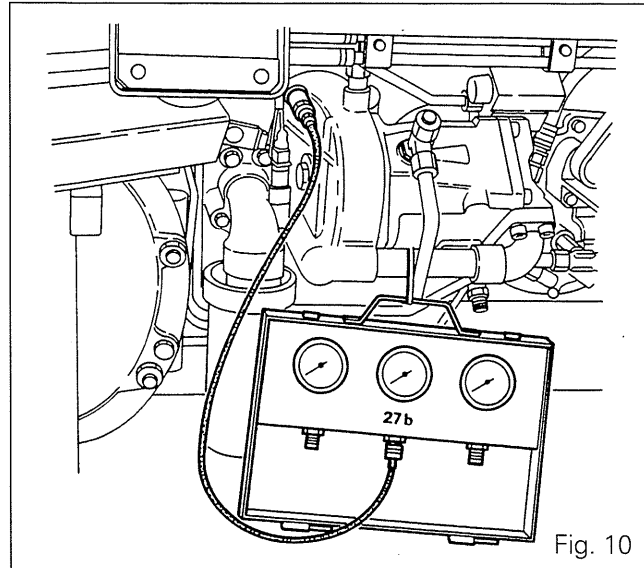

Fig. 10
- Connect a pressure gauge to the diagnostic connector (Fig. 10) located to the rear of the right-hand hydraulic cover to check **P16**.